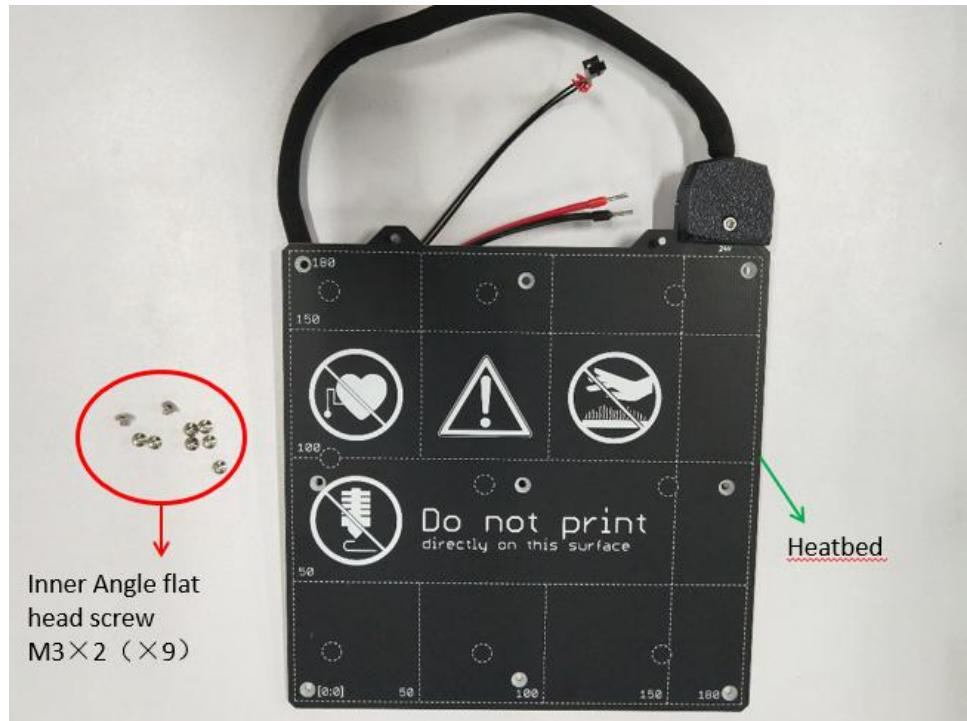

Figure 1.12.1
**Step 1-12-1:** As shown in Figure 1.12.1, prepare the materials and check whether the quantity of materials is correct, prepare for the next installation.